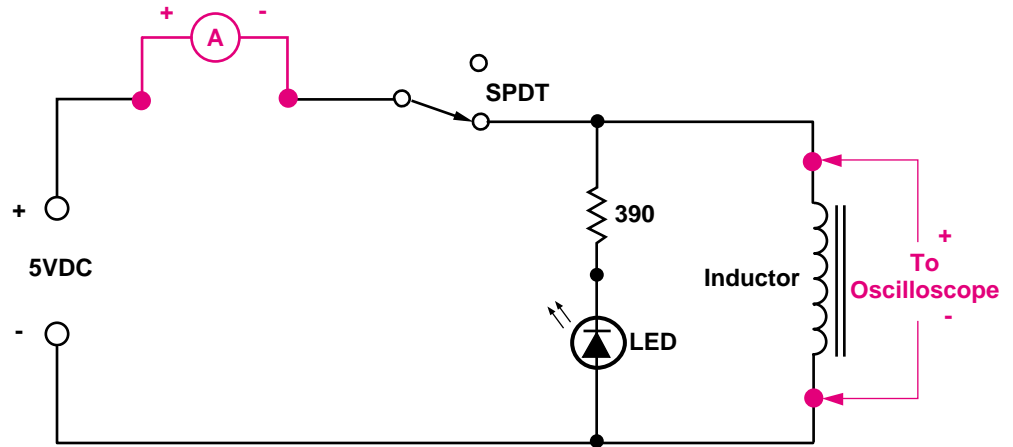

Figure 13
- ❑ 17. Connect the oscilloscope to the inductor as shown in Figure 13.